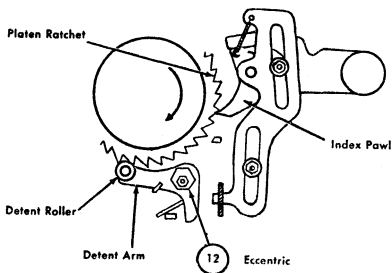

Figure 21. Detent Eccentric Adjustment
12. DETENT ECCENTRIC. Adjust the eccentric nut of the detent arm so that the index pawl will enter the ratchet one-third of the distance down on a tooth. The high point of the eccentric should be kept in the upper half of its circle (Figure 21).